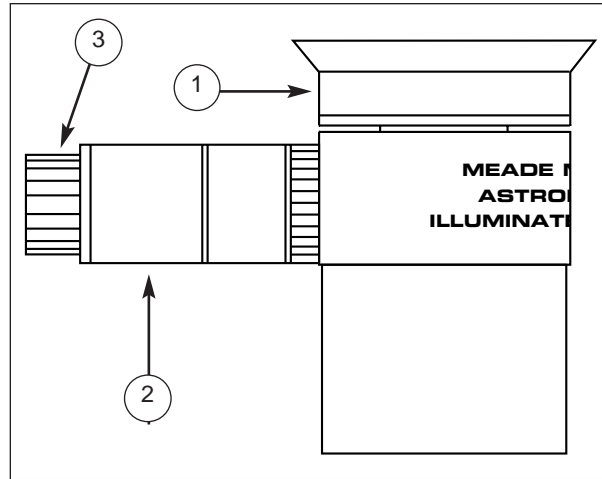

Fig. 1: MA 12mm Astrometric Eyepiece. (1) Eyelens Focuser; (2) Red LED Illuminator with Continuously Variable Brightness Control; (3) Brightness Control Knob.
Focusing the Eyepiece: To focus the reticle of the Astrometric Eyepiece, turn the Eyelens Focuser (1, Fig. 1) of the eyepiece clockwise or counterclockwise until the reticle scales are seen at their sharpest.
Using the LED Illuminator: To turn on the illuminator, rotate the illuminator control knob (3, Fig. 1) past the click stop. Illumination brightness control is varied by further turning the control knob. Turning clockwise increases the brightness of the LED, while counterclockwise decreases the brightness. To turn the illuminator off, turn the control knob all the way counterclockwise until it is turned to the click stop.
The LED Illuminator (3, Fig. 1) contains batteries that must be replaced occasionally. Use two (2) Duracell MS-76 photo batteries or equivalent. To open the illuminator, grab both ends of the illuminator and twist one end counterclockwise. Between battery replacements clean the battery contacts with the eraser-tip of a pencil.